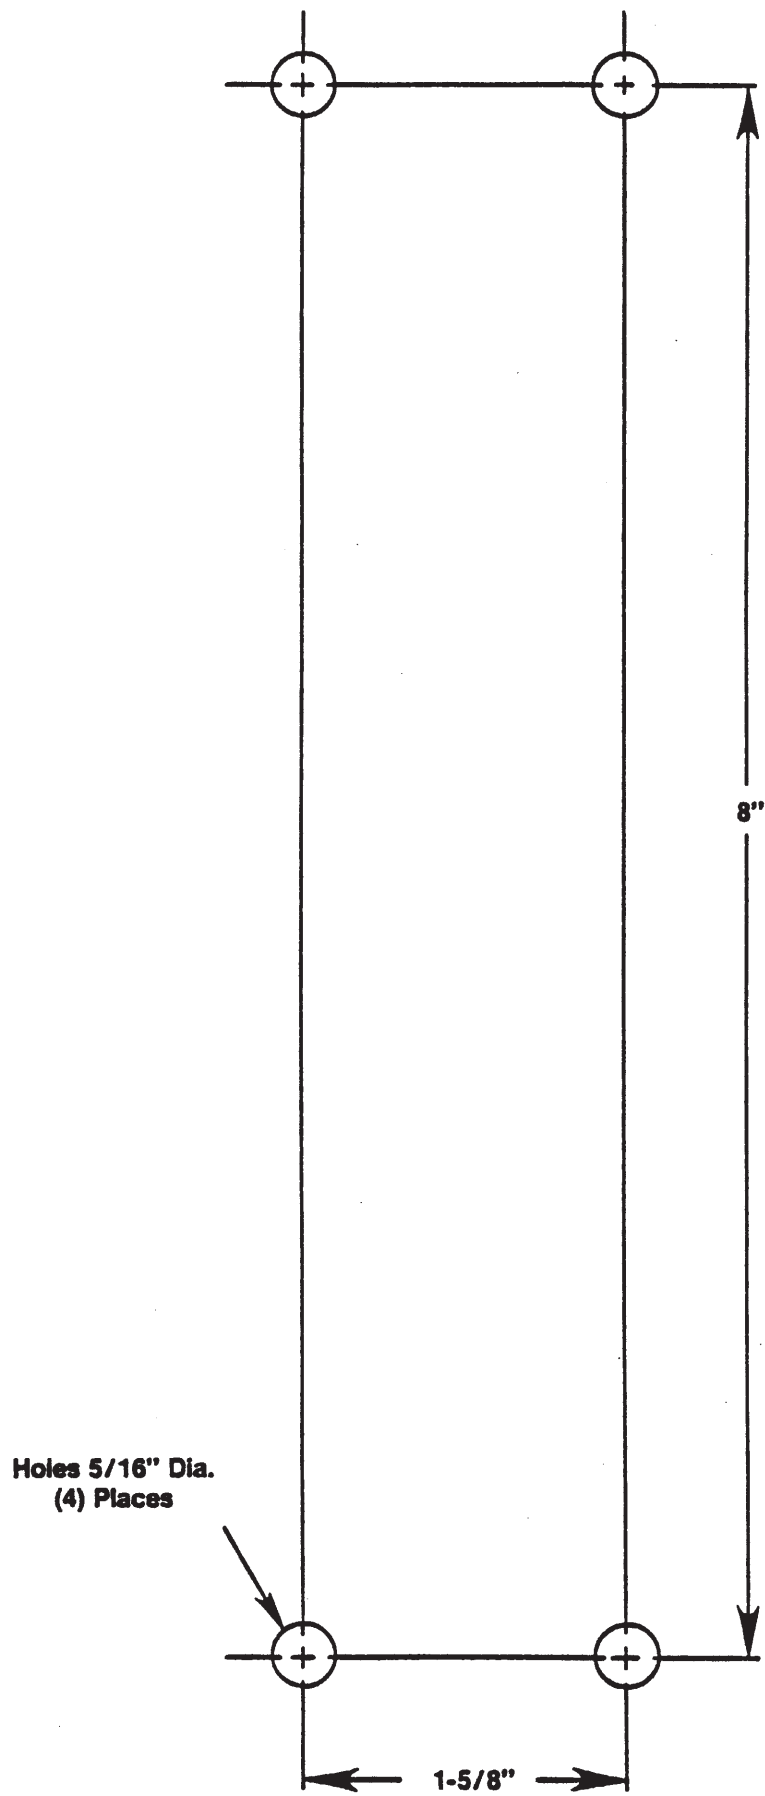

Figure 2-3. Drill Template for Front Panel Mounting (Full Scale)
To panel mount the flowmeter, use the following procedure. Refer to Figure 2-3 for the location of the panel mounting hole pattern.
5. Drill four 5/16 holes in the body casting at the cast-in drill marks. These holes align with the panel mounting hole pattern in Figure 2-3.